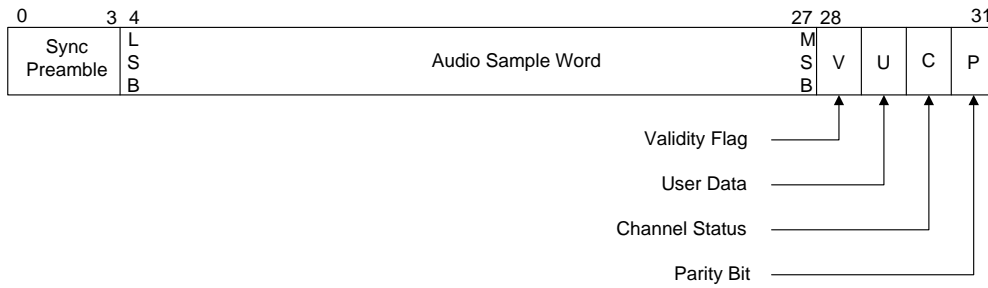

Figure 86: IEC 60958 Sub-frame Timing Diagram
- A stream conforming to the IEC60958 specification when the part receives audio sample packets with L-PCM encoded data (refer to Figure 86).
- An SDPIF stream conforming to the IEC60958 specification (refer to Figure 86). The following configuration is required to output an SPDIF stream on the HBR output pins: